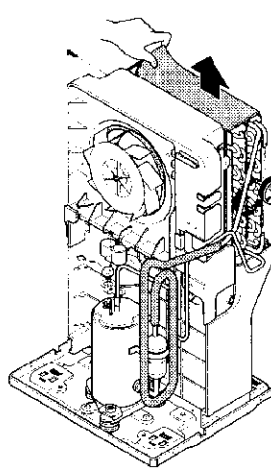

Figure 16
3. After recovering the refrigerant completely, remove the two screws between the shroud and condenser. (See Figure 16.)